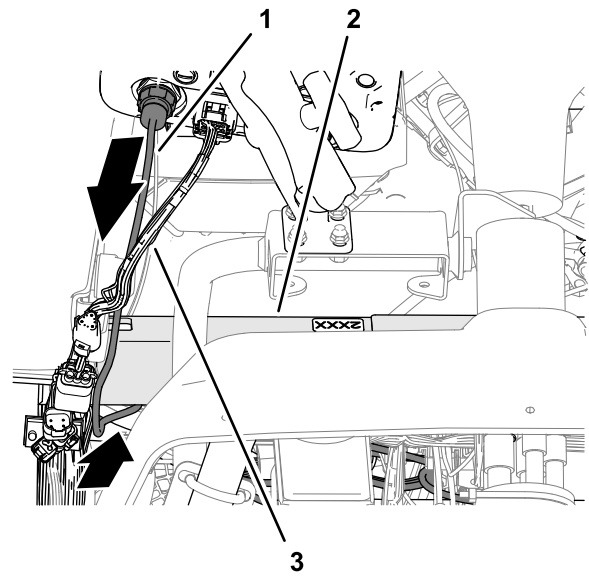

Figure 181
1. Route the modem data harness along the data harness for the control console (Figure 181).